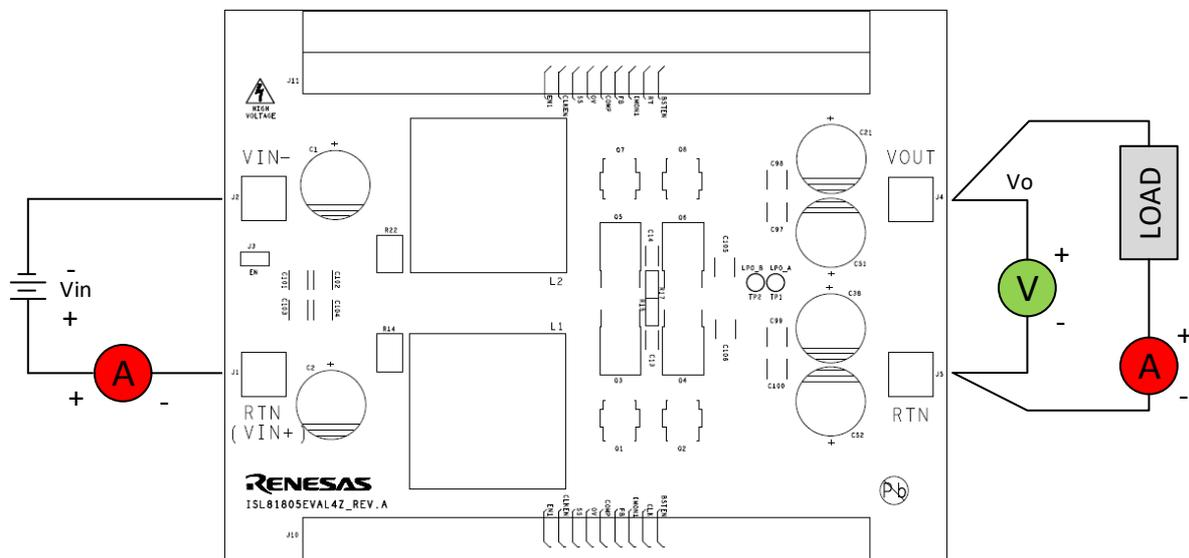

Figure 3. Proper Test Setup
As shown in Figure 3, -36V to -60V V_{IN} is supplied to J1 (+) and J2 (-). The regulated 48V output on J4 (+) and J5 (-) can supply up to 5A to the load. Because of the high-power efficiency, the evaluation board can run at 5A continuously without airflow at ambient room temperature conditions.
1. See Table 2 for the operating options. Ensure that the circuit is correctly connected to the supply and electronic loads before applying any power. See Figure 3 for the proper setup.